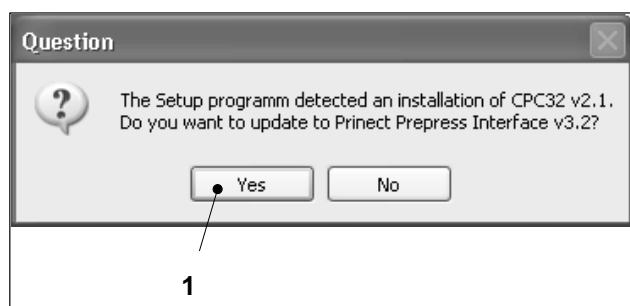

Fig. 22 Existing version detected
The dialog window shown in Fig. 22 opens.
The installation routine has found Version 2.1 (in Fig. 22, for example, it found CPC32 V2.1).
6. If you wish to perform the upgrade, click on *Yes* (Fig. 22/1).